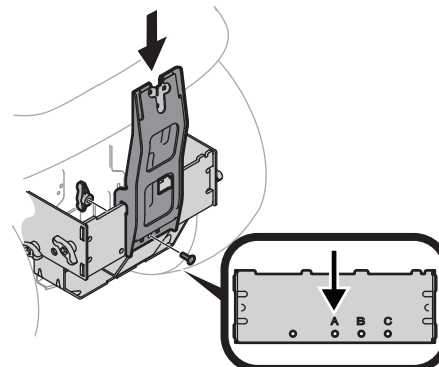

Figure 5
2. Align the center hole on the vertical support with the hole on the cross mount bracket which corresponds with the deck size of your tractor. See Figure 5.
- Secure the vertical support to the mounting assembly using a carriage bolt (710-0276) and a wing knob (720-04122) from hardware pack (689-02364). Refer to Figure 5 on page 6.